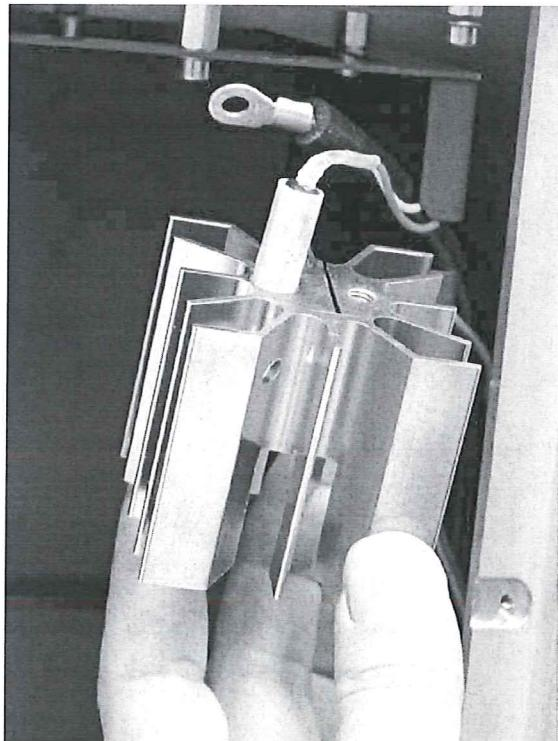

Fig. 1
- Mount the temperature sensor (2 cables; green, yellow) to the blind hole in the heat sink or top adapter (Fig. 1) and secure it by tightening the Allen setscrew.